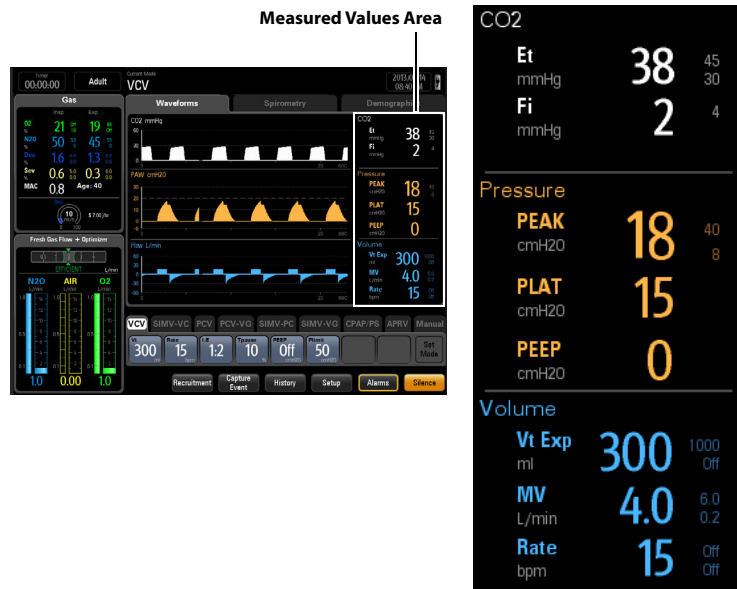

FIGURE 3-42 Measured Values Area (no AG module connected)
The Measured Values area is used to display the numerical data. The parameters include: End tidal CO₂ (with AG module connected), Fractional CO₂ (with AG module connected), Peak Inspiratory Pressure (PEAK), Plateau Pressure (PLAT) (user can configure this to display Mean Pressure (MEAN) or PLAT (see "Pressure Display" on page 3-40)), Positive End Expiratory Pressure (PEEP), I:E Ratio, Expiratory Tidal Volume (Vt), Expiratory Minute Volume (MV), and Breath Rate (Rate), and Inspiratory O₂% (FiO₂). (FIGURE 3-42)